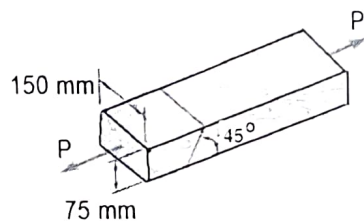

Fig. 4.
5. Two wooden members of uniform rectangular cross section are joined by the simple glued scarf splice shown in Figure 4. Knowing that the maximum allowable tensile stress in the glued splice is 560 kPa, determine (a) the largest load P that can be safely applied, (b) the corresponding shearing stress in the splice.